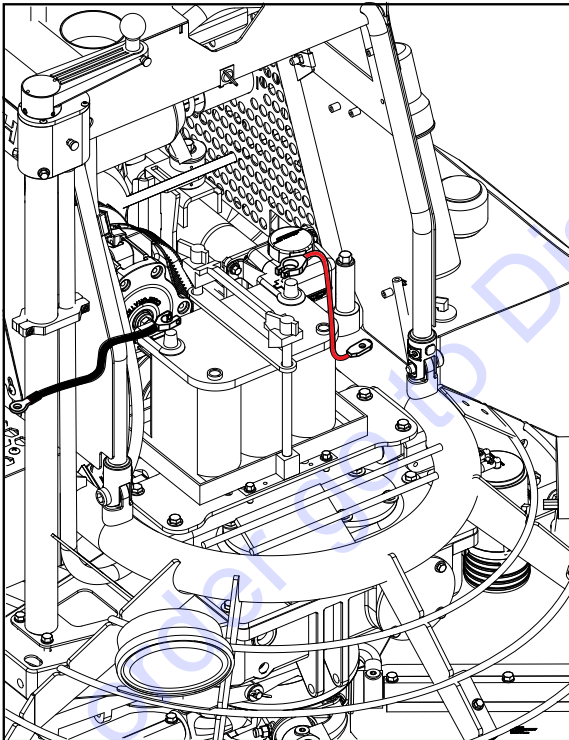

Figure 17. Battery Box
2. Connect the positive cable (**RED**) to the positive terminal on the battery first, then connect the negative cable (**BLACK**) to the negative terminal (Figure 17).